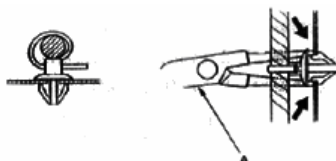

Fig. 4-7
5. Slide the pliers down to the bottom of the wire clip, through the hole at a certain angle, and then seize up the expansion piece, so as to loose the wire clip. (Fig. 4-7)